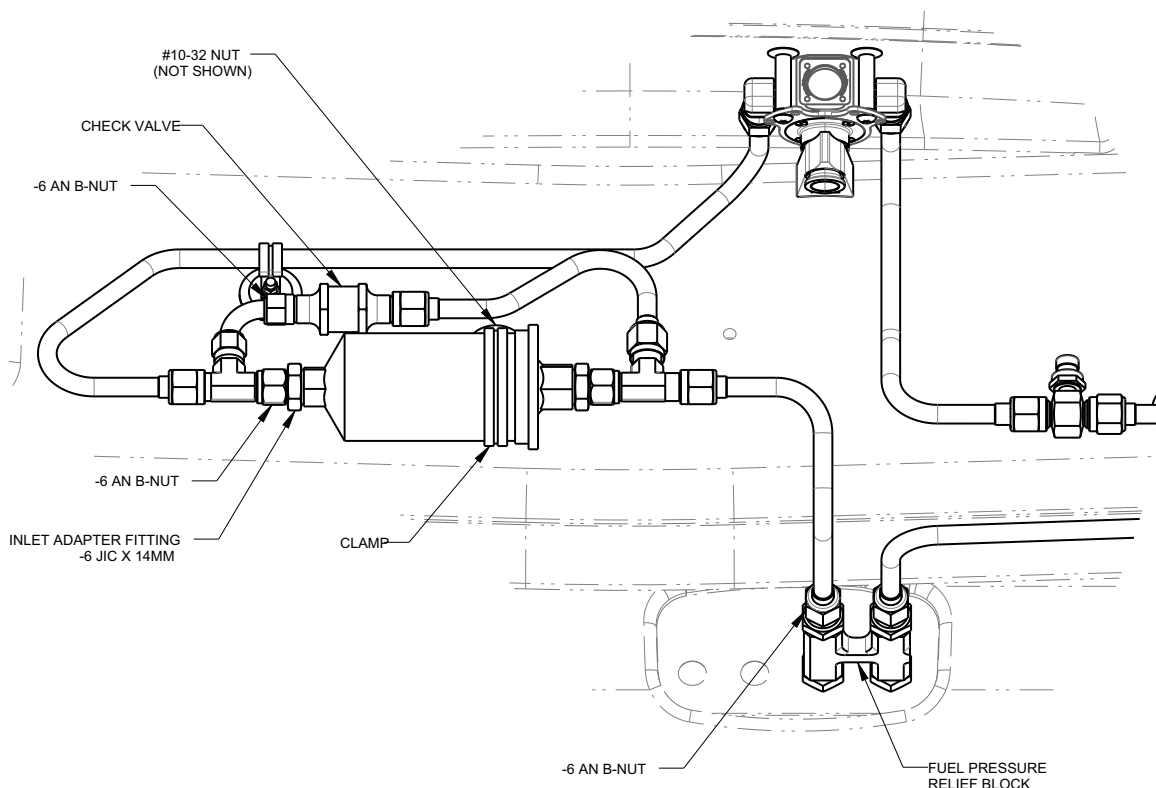

FIGURE 10-23
4. Use a 13/16 wrench to hold the union fitting at the fuel pressure relief block while loosening the adjacent -6 AN B-nut with an 11/16 wrench shown in Figure 10-23. Catch the fuel as it leaks from the joint.
5. Use a 15/16 wrench to hold the check valve while loosening the adjacent -6 AN B-nut with an 11/16 wrench in Figure 10-23.
4. Locate the fuel filter assembly in place on the aircraft and loosely thread on the -6 AN B-nuts. See Figure 10-23.